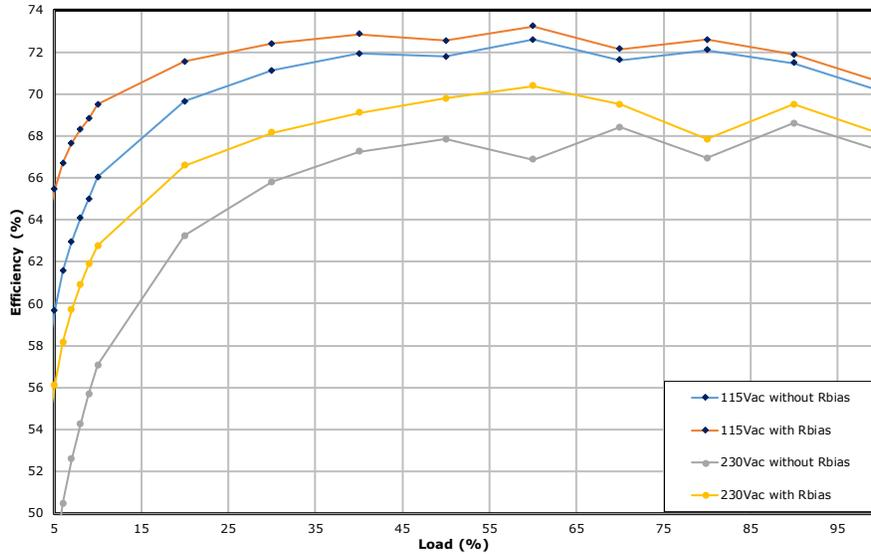
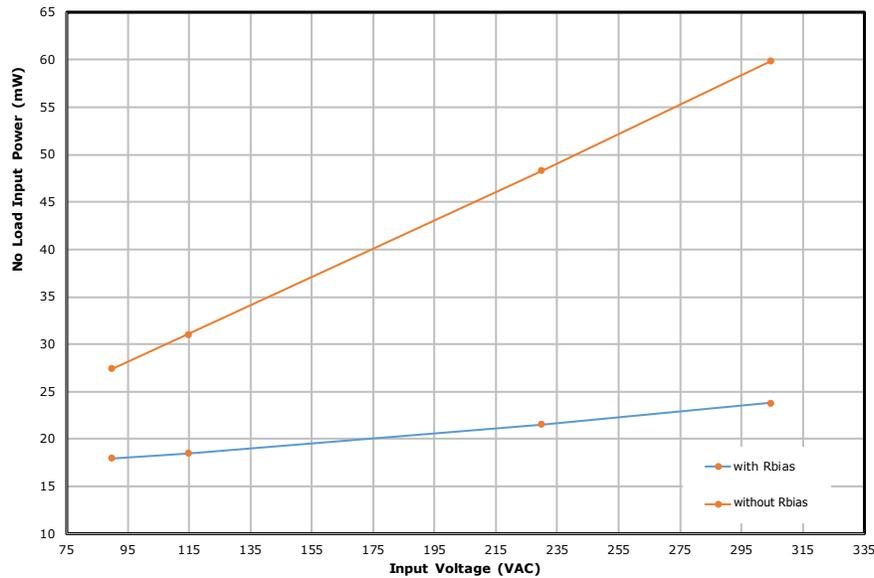

Figure 13. 115 VAC / 230 VAC Load Efficiency with and without R_{BIAS} .
Figure 14. No-Load Input Power with and without R_{BIAS} .
Designer can think that adding R_{BIAS} will not help for a 5 V output LinkSwitch-TN2 buck due to BYPASS Pin (BP) voltage is approximately 5 V. As the load is decrease from full load to minimum load, the output voltage is in increasing trend (full load at 4.88 V and minimum load at 5.13 V). Since at light load the V_O is higher than 5 V, the R_{BIAS} can still help to increase efficiency at light load (Figure 13). At no-load, the R_{BIAS} will help to decrease drastically the input power (Figure 14).